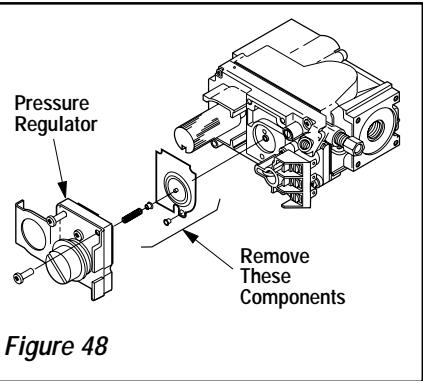

Figure 48
Step 4. SIT Systems - Refer to *Figure 48 on page 29* and the instructions provided with the kit. Using a Torx T20, remove and discard the three pressure regulator mounting screws. Remove the pressure regulator, spring, poppet, diaphragm and bushing. **Discard all removed components.**